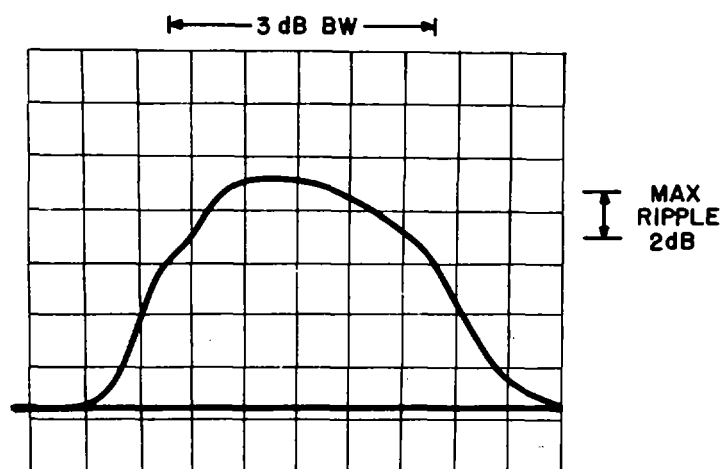

Figure 4-21C. Type 724007-X and 724008-1 IF Amplifier, Typical Response
9. For the Type 724007-1, -2 IF Amplifiers, adjust C3, C5, C7, C9, C11, and C14 for the best overall response, as illustrated in **Figure 4-21C**. Adjust R8 to set the response amplitude equal to within ± 1 dB of the reference set in step 5. Connect the DVM between connector pin 12 and ground and adjust R12 to produce a DVM reading of +7.00 Vdc for the Type 724007-1 Amplifier, or -8.00 Vdc for the Type 724007-2 Amplifier.
10. For the Type 724008-1 IF Amplifier, adjust L1, L2, L4, L5, L7, and L8 for the best overall response, as illustrated in **Figure 4-21C**. Adjust R8 to set the response amplitude equal to within ± 1 dB of the reference set in step 5. Connect the DVM between connector pin 12 and ground and adjust R12 for a +9.00 Vdc DVM reading.